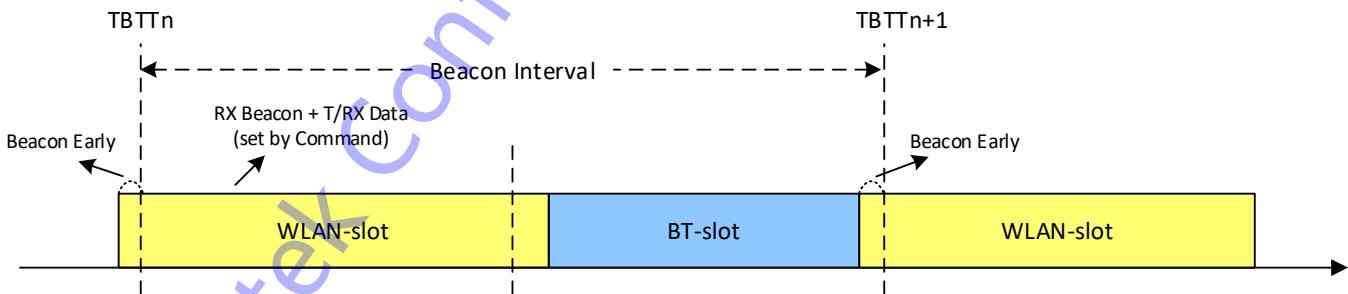
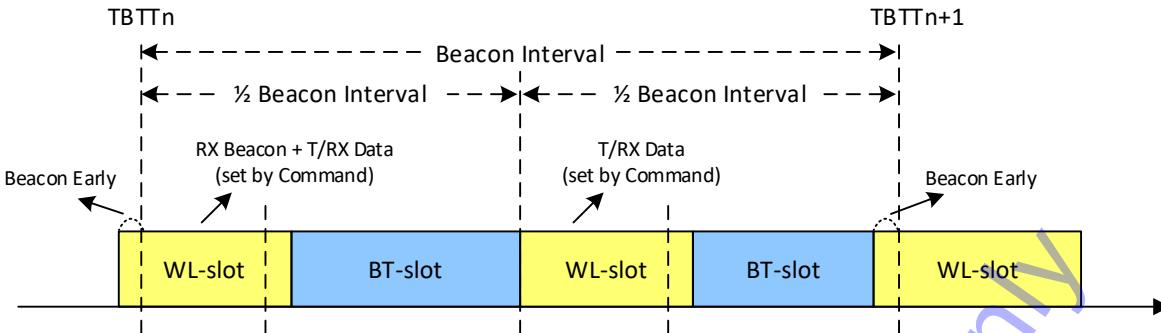

Fig 32-3 TDMA with 2-slot
Fig 32-4 TDMA with 4-slot
In most cases, we use 2-slot and 4-slot TDMA to share the RF usage. Fig 32-3 and Fig 32-4 demonstrate TDMA with 2-slot and 4-slot mode separately. Regardless of the working modes of Ameba-D, whether in station(STA) mode or access point(AP) mode, both 2-slot and 4-slot TDMA can be applied. In this demonstration, we take 2-slot TDMA into STA scenario, while 4-slot TDMA into AP scenario for the sake of discussion.